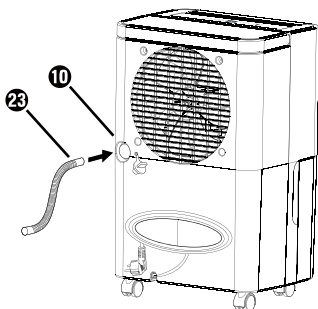

Fig. 4
- ◆ Remove the stoppers ⑨ from the water outlet opening ⑩.
- ◆ Connect either the supplied hose ②③ or the EU garden hose adapter ②④ to the water outlet opening ⑩ (see figures 4 and 5).